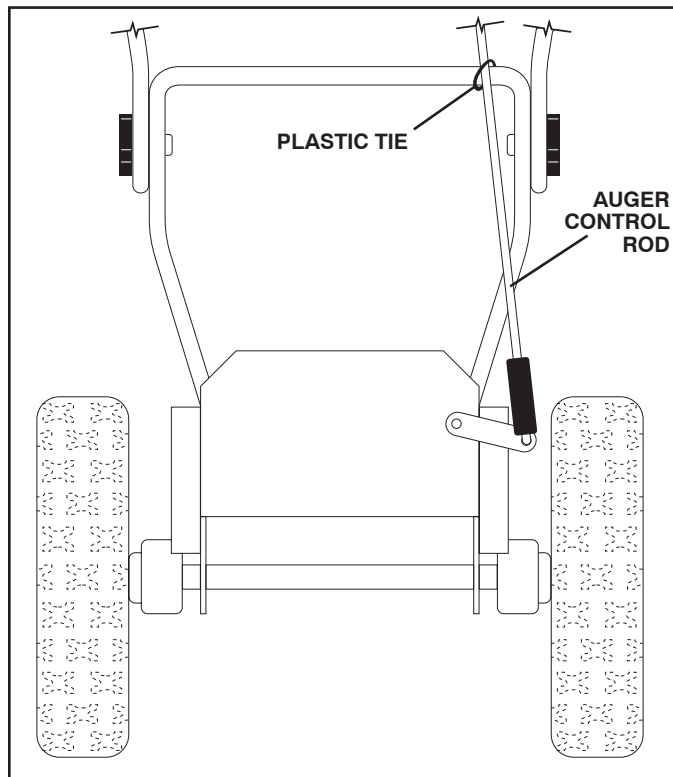

FIG. 5
INSTALL AUGER CONTROL ROD (See Figs. 5 and 6)
1. Remove plastic tie securing auger control rod to lower handle. (See Fig. 5).